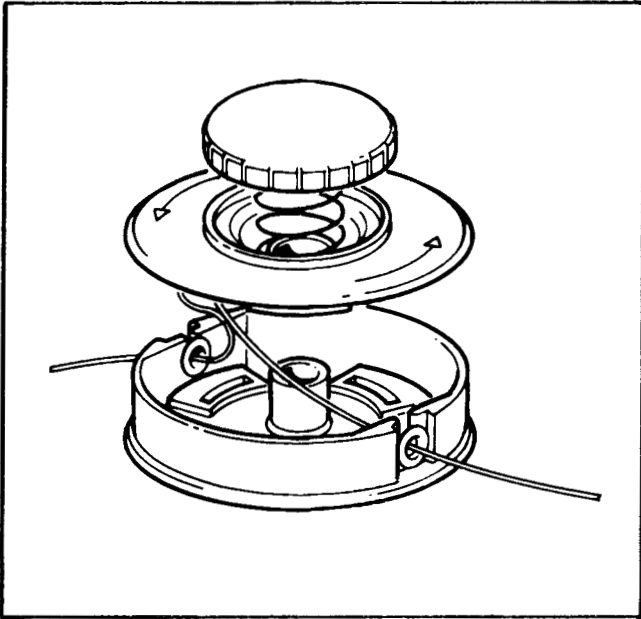

Figure 142
4. Install the spool and line assembly into the drum, threading one line through each of the eyelets. See Figure 142.